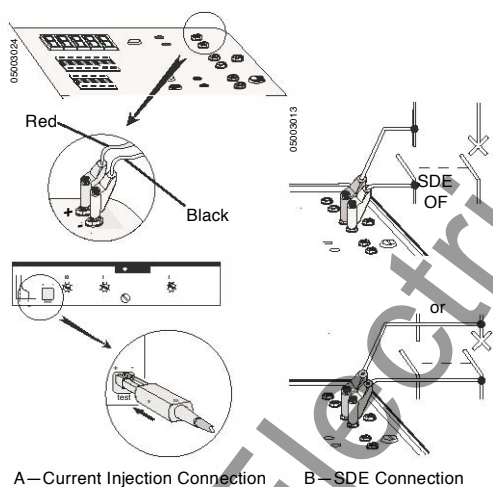

Figure 28: Connect Trip Unit to Test Set
1. Make sure that LED1 (A) is on.
2. Connect the test kit to the trip unit as shown in Figure 28.
1. Make sure that both LED1 (A) and LED2 (B) are on.
1. Make sure that LED1 (A) is on. Time-delay settings 0.1, 0.2 and 0.3.